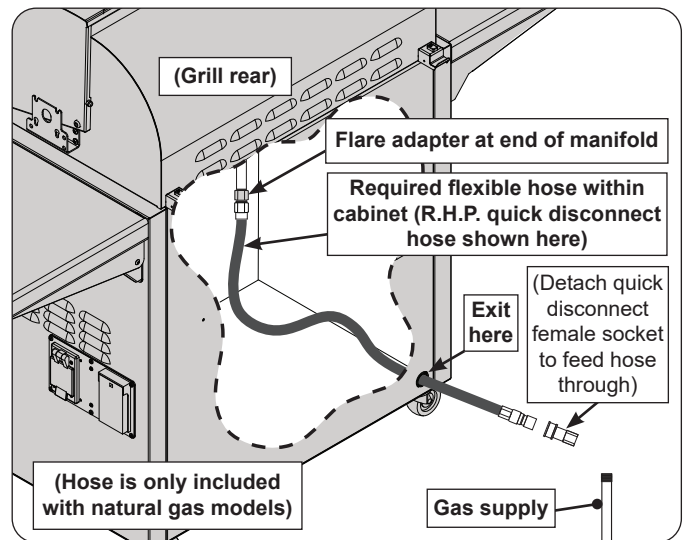

Fig. 21-1 Flexible hose assembly detail
2. **Household propane only:** A regulator hose assembly designed for L.P. cylinders comes pre-installed to the unit valve manifold. First remove this assembly from the flare adapter (at end of manifold), and then install a quick disconnect hose or similar (purchased separately) to the adapter. (An R.H.P. quick disconnect hose is recommended - see third bullet above.) Use a pipe joint compound resistant to all gasses on all NPT pipe fittings except flare fittings. Reference Fig. 21-1. Then proceed to step 3.
3. Route the quick disconnect hose (or similar) out of the hole in the rear bottom right of the cabinet, and to the gas supply (see Fig. 21-1).